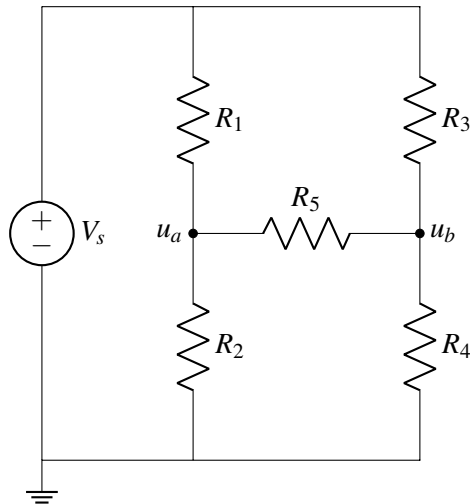

Figure 1: Circuit consisting of a voltage source V_s and five resistors R_1 to R_5
- Redraw the circuit diagram shown in Figure 1 by adding a voltmeter (letter V in a circle and plus and minus signs indicating direction) to measure voltage V_{ab} from node u_a (positive) to node u_b (negative). Calculate the value of V_{ab} . You may use a numerical tool such as IPython to solve the final system of linear equations.
- Redraw the circuit diagram shown in Figure 1 by adding an ammeter (letter A in a circle and plus and minus signs indicating direction) in series with resistor R_5 . This will measure the current I_{R_5} through R_5 . Calculate the value of I_{R_5} .